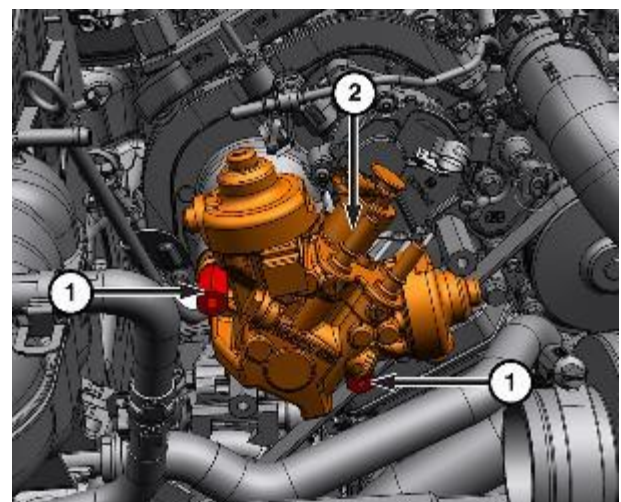

Figure 35 – Upper Bolts
- 27. Remove the upper bolts (1) from the high-pressure pump (2) (Figure 35).